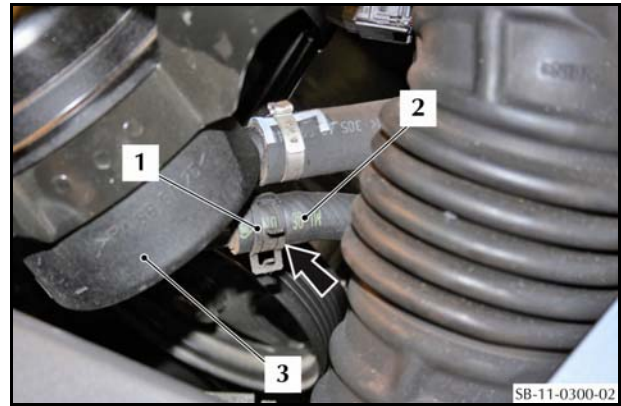

Figure 2
6. Release the hose clamp (1) that attaches the PAS return hose (2) to the PAS reservoir (3) (refer to Figure 2).
7. Disconnect the PAS return hose (2) from the PAS reservoir (3).
8. Install an applicable plug to seal the return port of the PAS reservoir (3).